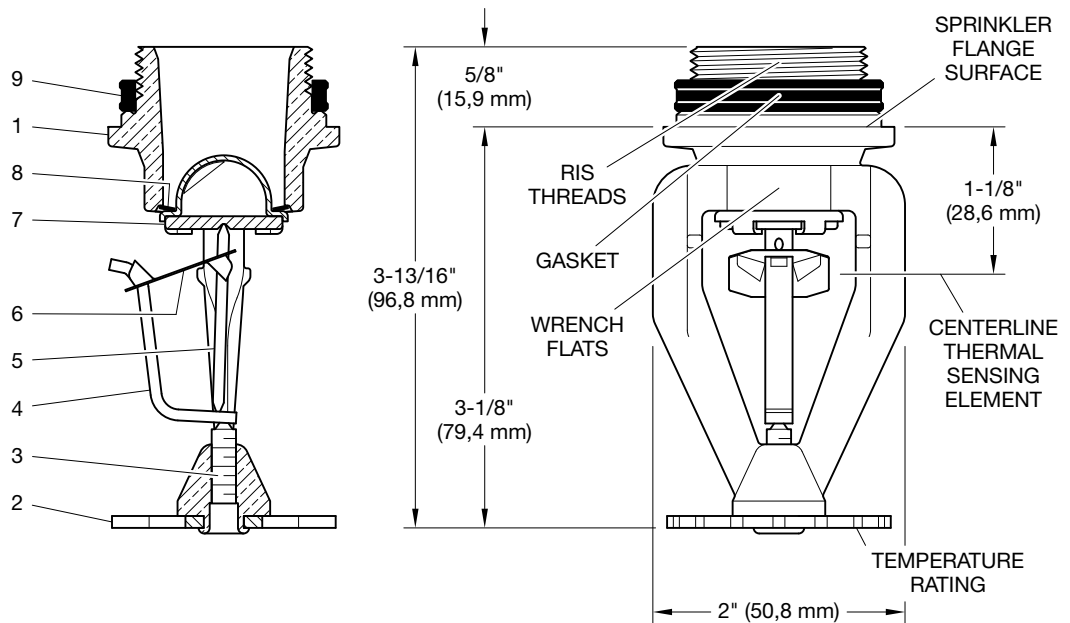

FIGURE 1
The TYCO Model ESFR-25 25.2 K-Factor Pendent Rapid Install Sprinkler (RIS), herein called the ESFR-25 RIS, is an Early Suppression, Fast Response (ESFR) sprinkler with a pre-installed rubber RIS gasket for quick and easy installation. The ESFR-25 RIS threads into a TYCO RIS welded fitting by hand without the need for tape or sealant. The sprinkler assembly is shown in Figure 1.
Note: Model ESFR-25 RIS assemblies and RIS plugs, see Figures 1 and 6, include a factory-assembled RIS gasket.
- Ensure the RIS gasket is present on the ESFR-25 RIS and positioned at the base of the threads near the flange as shown in Figure 1.